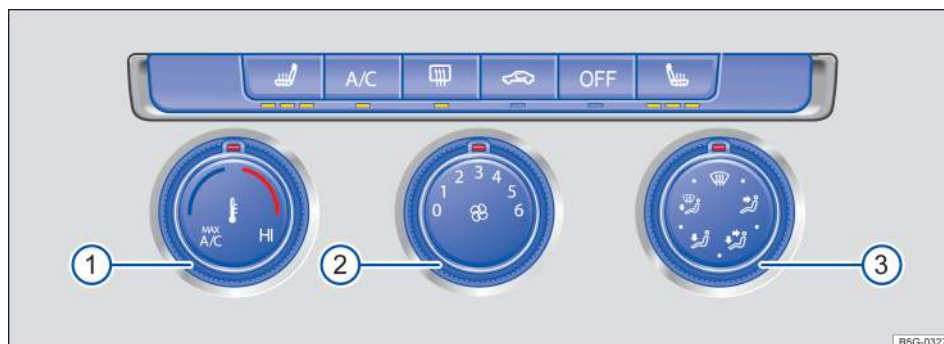
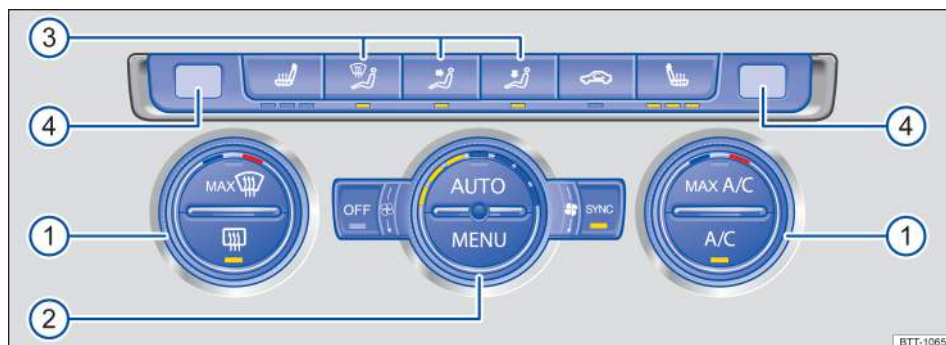

Fig. 88 In the center console: Manual controls.
Fig. 89 In the center console: Climatronic controls.
- *Manual air conditioning:* Turn the fan knob to 0 → fig. 88 ②.
– *Climatronic:* Turn the fan knob as far left as it will go → fig. 89 ②
- **OR:** Press the **(MENU)** button on the Climatronic controls → fig. 89 ② to open the Climatronic menu in the Infotainment system and switch the system off.
- *Manual air conditioning:* Turn the temperature knob → **fig. 88 ①** all the way to the left (**MAX A/C** position).
- *Manual air conditioning:* Turn the temperature knob → **fig. 88 ①** to set the temperature.
- *Climatronic:* Turn the outside knobs → **fig. 89 ①** to set different temperatures for the driver and passenger sides. The displays above the knobs **④** show the set temperature.
- Turn the middle knob → **fig. 88 ②** or → **fig. 89 ②** to adjust the fan speed.
- *Manual air conditioning:* Turn the knob → **fig. 88 ③** to direct air flow in the desired direction.
- *Climatronic:* Press the buttons → **fig. 89 ③** to direct air flow in the desired direction. When automatic regulation (**AUTO**) is switched on, air flow is automatically adjusted to a comfortable level. Options vary, depending on equipment:
- *Manual air conditioning:* Turn the right knob to position **🌨** → **fig. 88 ③** to defrost the windshield as quickly as possible. The cooling system switches on automatically to dehumidify the air. When the defrost function is switched on, the air recirculation mode cannot be switched on.
- *Climatronic:* Press the **MAX 🌨** button → **fig. 89 ①** to defrost the windshield as quickly as possible. The incoming outside air is directed to the windshield, and air recirculation automatically switches off. Humidity is removed from the air at temperatures above about +35 °F (+1.5 °C), and the blower is set to a high speed.